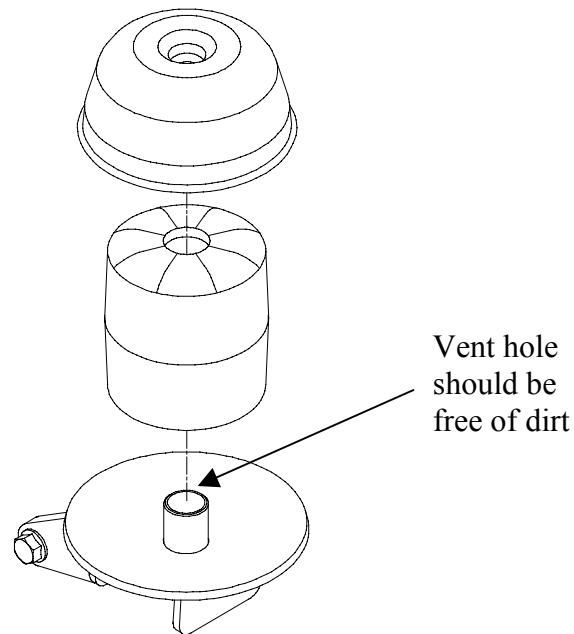

FIGURE 5
STEP 4 – Raise the vehicle until there is sufficient clearance to remove the restrictor can & spring as one unit. See Fig.5.
STEP 5 – Separate the restrictor can and spring. Discard the restrictor can. Using a wire brush or scraper, remove rust and road accumulations from the conical spring plate. Clean out the centre vent holes in spring plate. See Fig.5. Inspect the conical spring plate for visual cracks. If cracked, replace. Contact Chalmers for details.
STEP 6 – Turn the spring upside down so as the old top is now down. Place the replacement restrictor can over the spring. Make sure the can centre locator is in the centre spring hole. See Fig.5.
STEP 5 – Separate the restrictor can and spring. Discard the spring. Using a wire brush or scraper, remove rust and road accumulations from the conical spring plate. Clean out the centre vent holes in spring plate. See Fig.5. Inspect the conical spring plate for visual cracks. If cracked, replace. Contact Chalmers for details.
STEP 6 – Place the replacement restrictor can over the spring. Make sure the can centre locator is in the centre spring hole. See Fig.5.